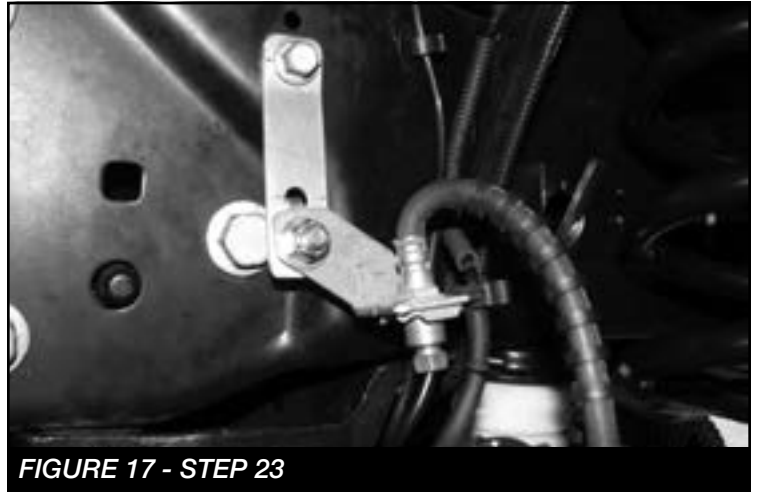

FIGURE 17 - STEP 23
23. **(DRIVER SIDE)** Install FT30659 (Brake line bracket) to the factory brake line tab using the supplied 3/8" hardware. Next, install the bracket to the frame using the factory hardware. Torque hardware to 52 ft-lbs. **SEE FIGURE 17**